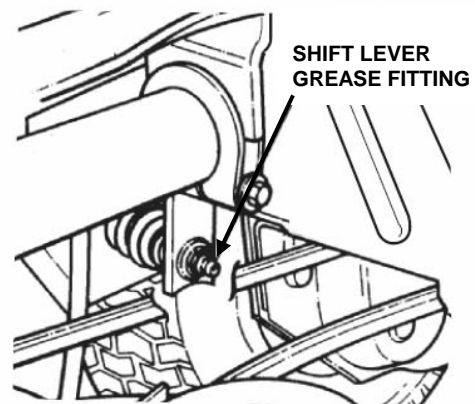

FIGURE 3.6a
1. Lubricate shift lever fitting with two shots of general purpose grease from grease gun. See Figure 3.6a.